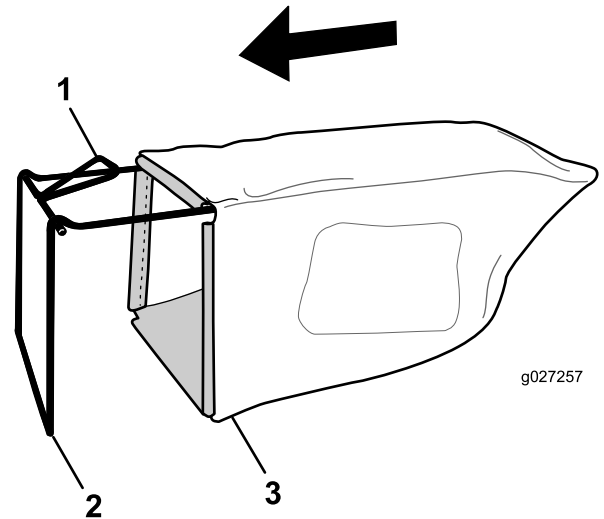

Figure 8
1. Slip the grass bag over the frame as shown in Figure 8.
- Note:** Do not slip the bag over the handle (Figure 8).